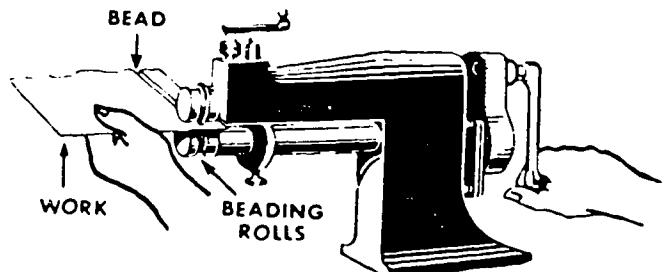

Figure 3-12. Beading machine.
*Beading machine.* The beading machine, shown in figure 3-12, is used for making beads in sheet metal objects such as cans, buckets, and pipes. Beads act as stiffeners and serve as stops for connecting two or more lengths of metal pipe. The beading machine is easy to operate, and with practice, high-quality work can be turned out. It comes equipped with several pairs of rolls which can be removed and replaced in the same manner as the burring and wiring machine rolls. The beading machine rolls that are generally used are single rolls, double rolls, triple rolls, and ogee rolls.